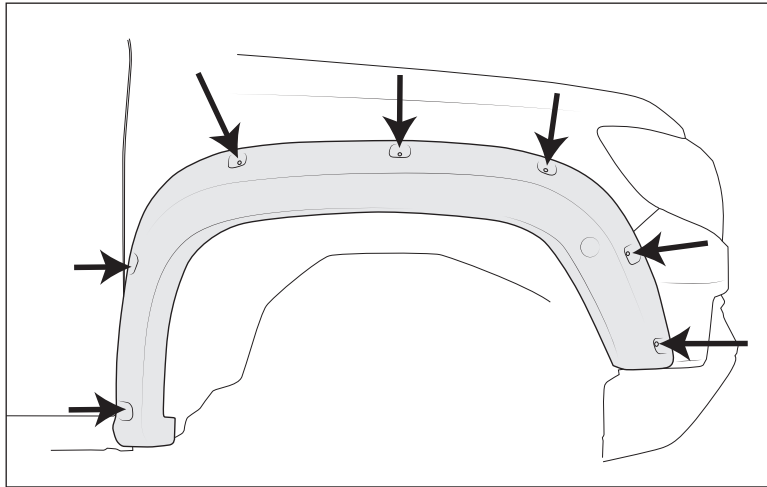

Figure 6
9. Hold flares to vehicle. **IMPORTANT: Confirm fitment at the door gap and lower edge of front fascia before drilling any holes.** When confirmed, mark and center punch all holes using flare as template (fig. 6).